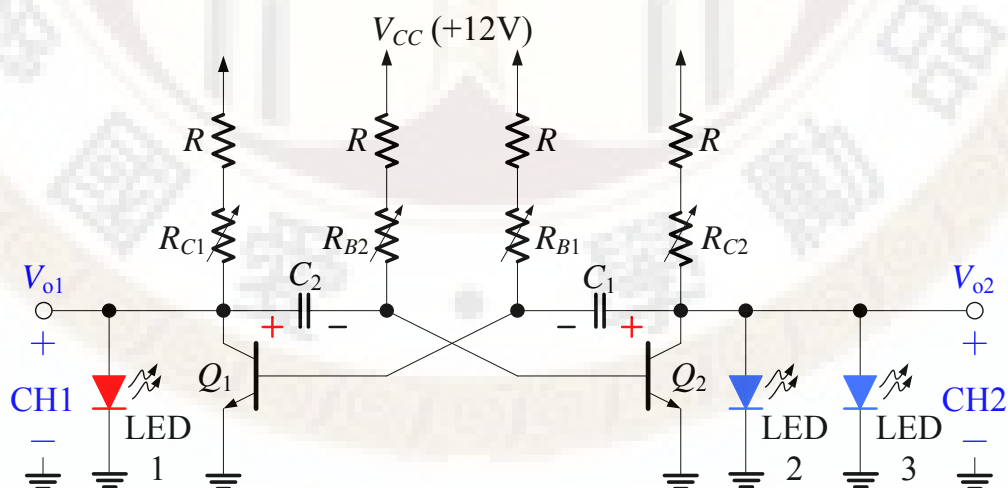

Fig. 5 An astable multivibrator using transistors
- (1) **Do not separate the terminals of 2N2222 widely apart in order to prevent from the serious injury to the transistors.**
- (2) In Fig. 5, supply voltage $V_{CC} = +12V$.
- (3) Apply the values of $R = 220\ \Omega$, $C_1 = C_2 = 47\ \mu F$, $R_{B1} = R_{B2} = 100\ k\Omega$ VR, $R_{C1} = R_{C2} = 10\ k\Omega$ VR in the circuit.
- (4) Adjust VR $R_{C1} = R_{C2} \approx 0.5\ k\Omega$.
- (5) Oscilloscope ► Press the **CH1** and **CH2 MENU ► Coupling ► DC**.
- (6) Adjust R_{B1} and R_{B2} to make the lamp be able to sparkle and make the oscillatory frequency of the lamp as ideally as you wish.
- (7) Record the value of oscillatory frequency $f_0 = \underline{\hspace{2cm}}$ Hz.
- (8) Use the **Cursors** menu button to measure and record the value of $T_H = \underline{\hspace{2cm}}$ μs , $T_L = \underline{\hspace{2cm}}$ μs , Duty cycle = $\underline{\hspace{2cm}}$ %, (Hint: $Duty\ Cycle = \frac{T_H}{T_H + T_L}(\%)$)
- (9) Record the value of $R_{C1} = \underline{\hspace{2cm}}$ $k\Omega$, and $R_{C2} = \underline{\hspace{2cm}}$ $k\Omega$.
- (10) Record the value of $R_{B1} = \underline{\hspace{2cm}}$ $k\Omega$, and $R_{B2} = \underline{\hspace{2cm}}$ $k\Omega$.